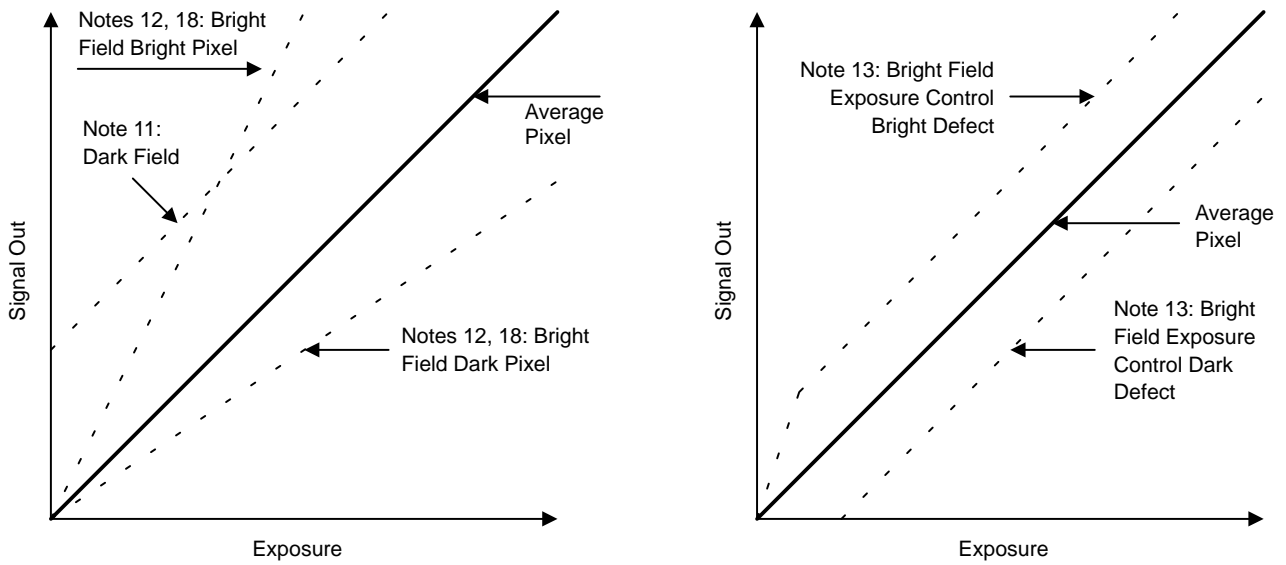

Figure 11. Defect Pixel Classification
11. Pixels whose response is greater than the average response by the specified threshold, (16 mV). See Figure 11.
12. Pixels whose response is greater or less than the average response by the specified threshold, (±15%). See Figure 11.
13. Pixels whose response deviates from the average pixel response by the specified threshold, (4.5 mV for Chroma, 5.5 mV for Luma), when operating in exposure control mode with an integration time that is 50% of the line time. See Figure 11. If dark pattern correction is used with exposure control, the dark pattern acquisition should be completed with exposure control actuated. Dark current tends to suppress the magnitude of these defects as observed in typical applications, hence line rate changes may affect perceived defect magnitude. Measured at 1 MHz data rate.
18. Pixels whose response is greater or less than the average response by the specified threshold, (±10%). See Figure 11.